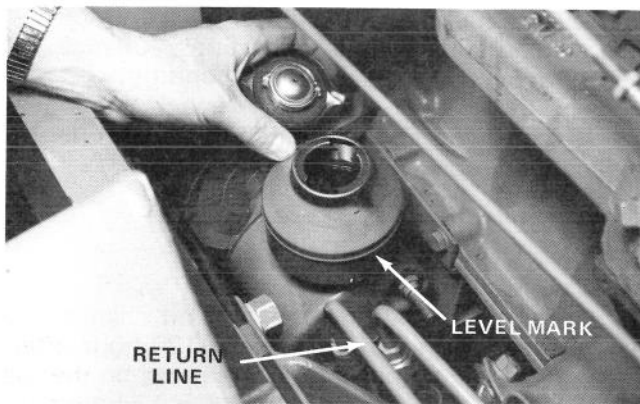

Figure 47
1. Check the fluid level every 150 hours of operation. Ensure the area around the filler cap is clean before removing the cap. The level mark is indicated on the reservoir body (Fig. 47).
4. The slightest evidence of dirt, sludge or water discovered in the system is an indication the system oil should be drained and replaced. Drain by disconnecting the return line (Fig. 47). Run the engine at idle until the oil is completely drained. Shut the engine off, replace the line and refill the system to the proper level.